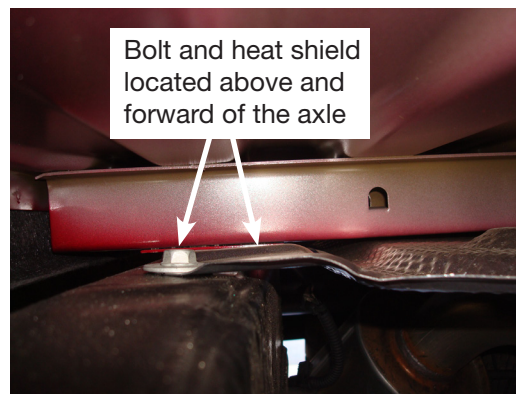
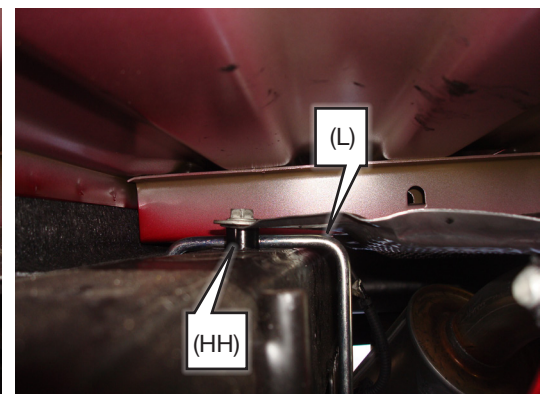
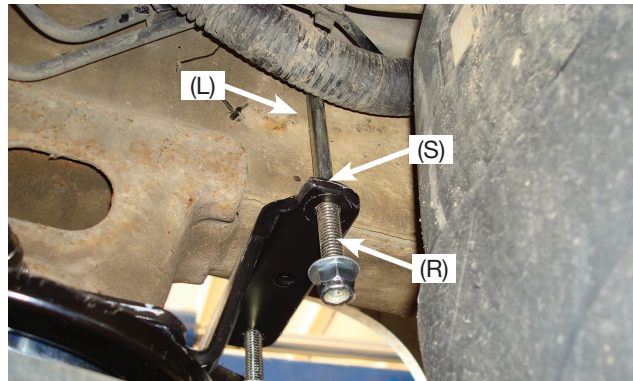

Fig. 19
Fig. 20
Fig. 21
5. Using a ratcheting wrench, remove the bolt that holds the heat shield on the frame above and forward of the axle. Set the bolt aside (fig. 19).
6. Set a U-bolt (L) into position around the frame (fig 20). Set spacer (HH) between the frame and heat shield and reattach the heat shield with the stock bolt previously removed.
- For models without a heat shield, as shown in Figure 19, set a U-bolt (L) into position around the frame (Fig. 20) and insert the U-bolt (L) through the holes in the upper bracket forward of the axle (Fig. 21).